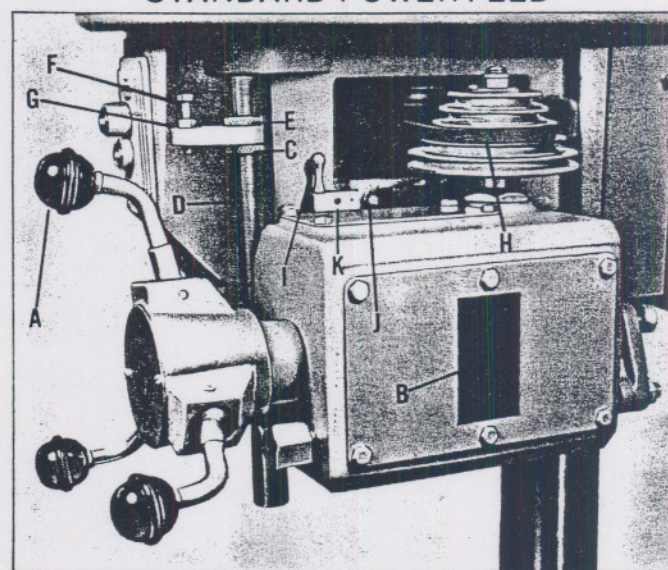
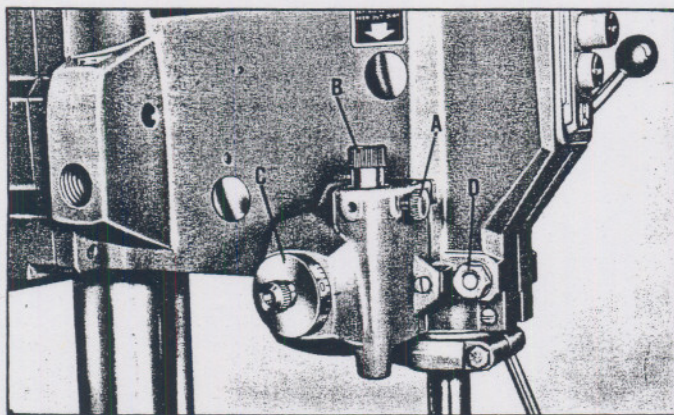

Fig. 11.
Fig. 12.
Manual Feed for both Standard and Vari-Rate Models - To feed manually, grasp any of the three handles (A) Fig. 11, and rotate the pilot wheel in a counterclockwise direction.
Power Feed for Standard Models — Set up the correct feed as shown on the feed chart (B) Fig. 11, located on the side cover of the power feed housing. To engage power feed, push any one of the three handles (A) Fig. 11, "in". To disengage power feed before completing cycle (or in an emergency) pull out any one of the three handles.
1. Loosen knurled lock screw (A) Fig. 12. With the power "off", turn knurled thimble (B) Fig. 12, clockwise and at the same time manually turn the power feed pilot wheel (A) Fig. 11, counterclockwise and lower the quill to the maximum depth of five inches.
2. Tighten knurled lock screw (A) Fig. 12, and release the power feed pilot wheel.
3. Check to make sure the quill returns to normal position in the head casting. If the quill does not return completely, even with proper spring tension, then the thimble (B) Fig. 12, has been backed off too far and should be readjusted counterclockwise a fraction of a turn at a time until full retraction of quill is obtained.
4. Lower the quill until the drill just touches the work and lock the quill by tightening the quill locking nut (D) Fig. 12. Then set the depth dial (C) at zero. Loosen quill locking nut (D) Fig. 12, and lower the quill the desired depth you wish to drill reading from the depth dial, and lock the quill by tightening the quill locking nut (D) Fig. 12.
5. Loosen locknut (G) Fig. 11 and raise screw (F).
6. Lower the bottom knurled lock nut (C) Fig. 11, until it contacts the guide and tighten firmly with nut (E).
7. Turn screw (F) down until the trigger is depressed and the power feed is disengaged. Then lock screw (F) by tightening nut (G) Fig. 11.
8. Loosen quill locking nut (D) Fig. 12, turn on the power and drill several test holes. The screw (F) Fig. 11, can be further adjusted for more accurate depth control.
To replace power feed drill press belt (H) Fig. 11, proceed as follows:
1. Release pressure on belt tensioner by pushing handle (I) Fig. 11, in until screw (J) is engaged in hole of plunger (K).
2. Remove belt (H) Fig. 11.
3. Install new belt (H) and release screw (J) from plunger (K) to retension belt.